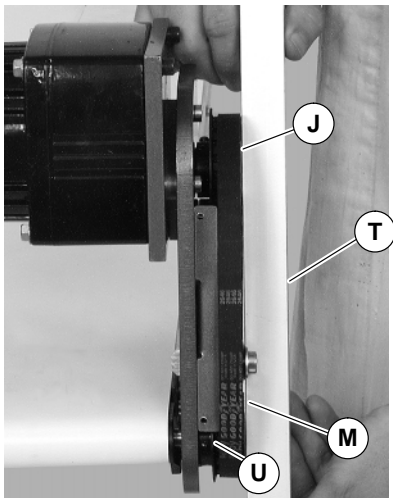

Figure 6
6. Using a straight edge (T of Figure 6), align driven pulley (M) with drive pulley (J). Tighten driven pulley set screws (U).